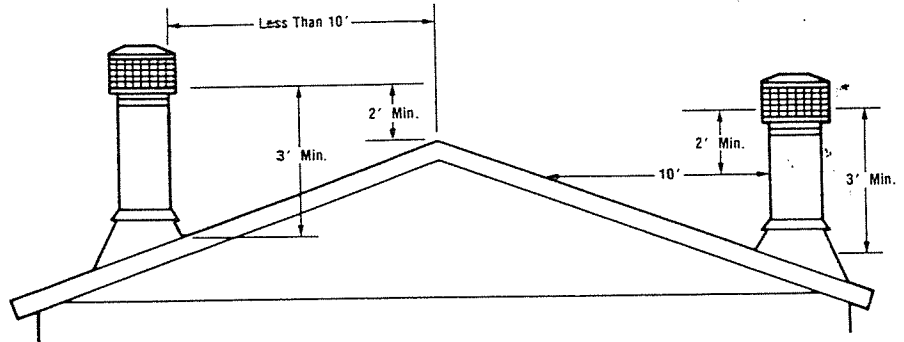

Figure 6
8. (See Figure 6). This illustrates the correct height of your chimney top. It is unlikely that your installation does not adhere to installation instructions. However, if not correct, you could experience an unusual downdraft. Usually, the best solution is to increase the chimney height. This may also be necessary if nearby trees or a hill is causing a downdraft condition.